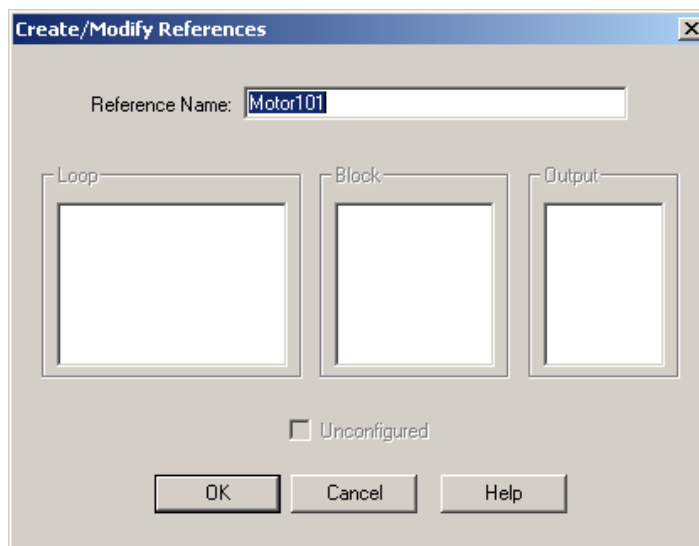

Figure 4-19 Create/Modify References
2. Right-click the reference name above the coil the Create/Modify References dialog displays. See Figure 4-19.